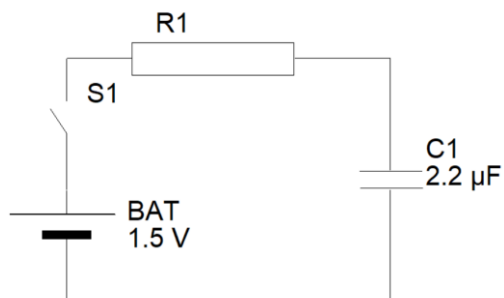

Figure 7: Circuit 6
- c. For the RC circuit shown in Figure 7, find the resistance value of resistor R1 to achieve a time constant of 5.28s.